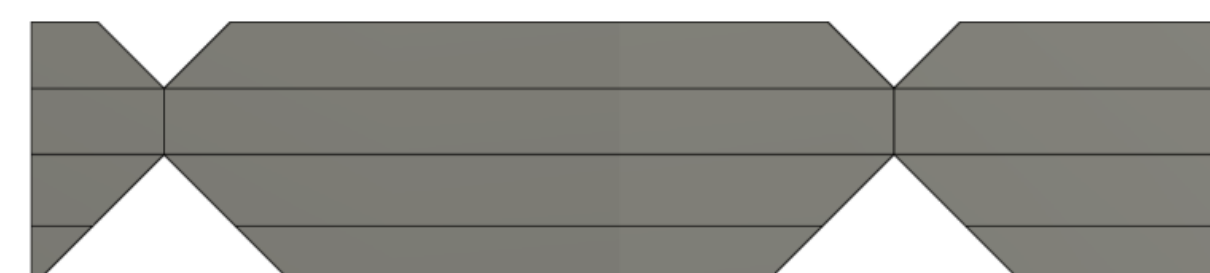
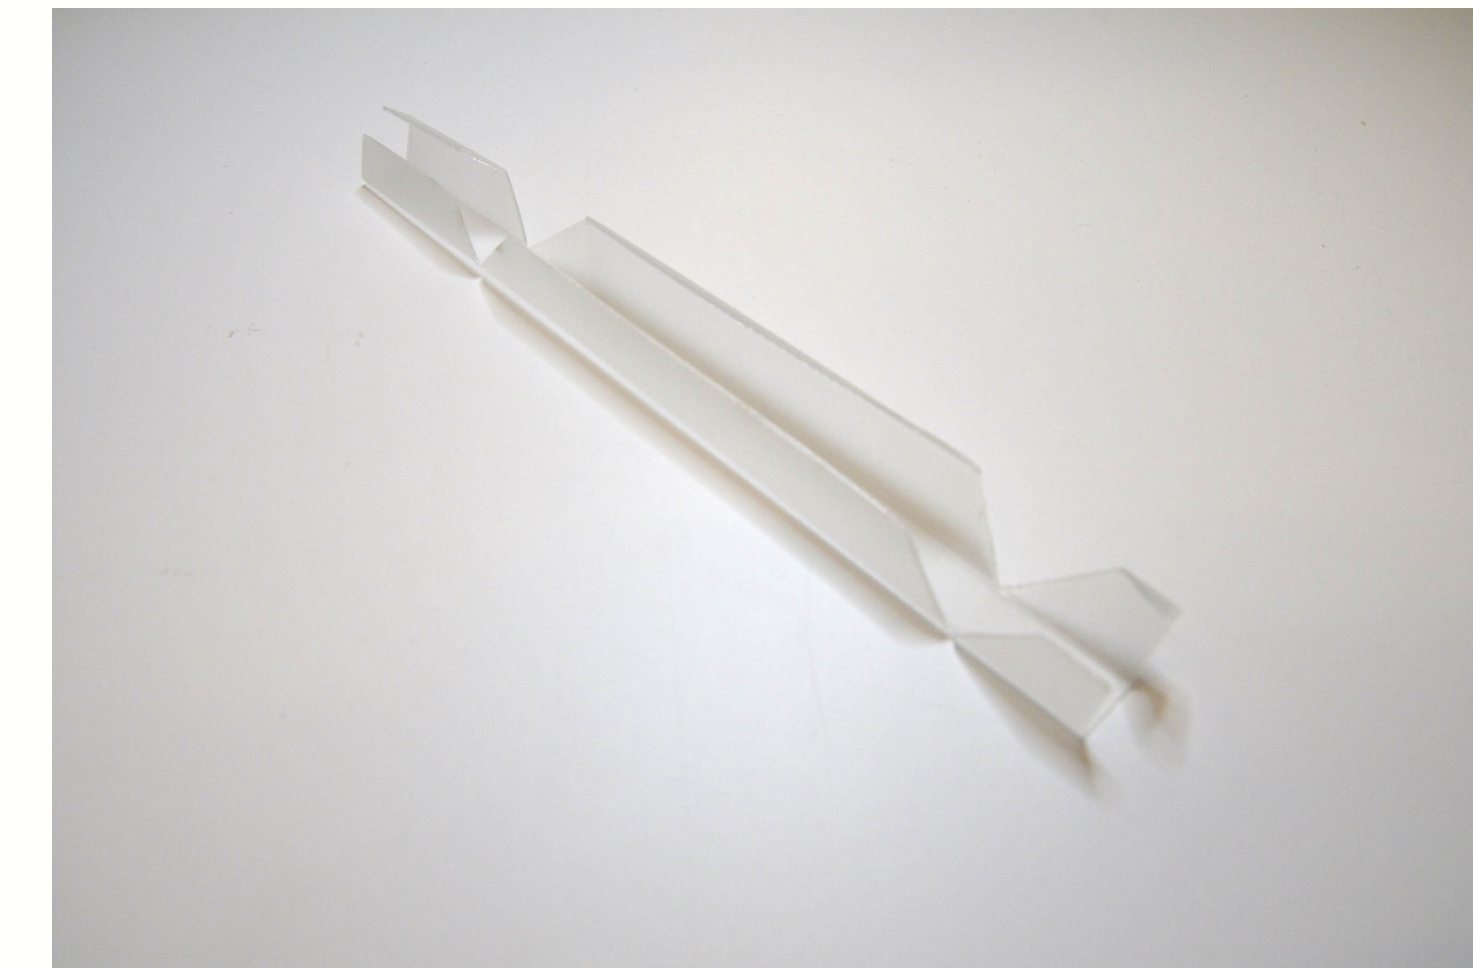

Fig 2- flat view of the PP test structure
Fig 4- PP sheet after being creased and folded
- As shown in fig 2 and fig 4, the sheet was creased and folded together